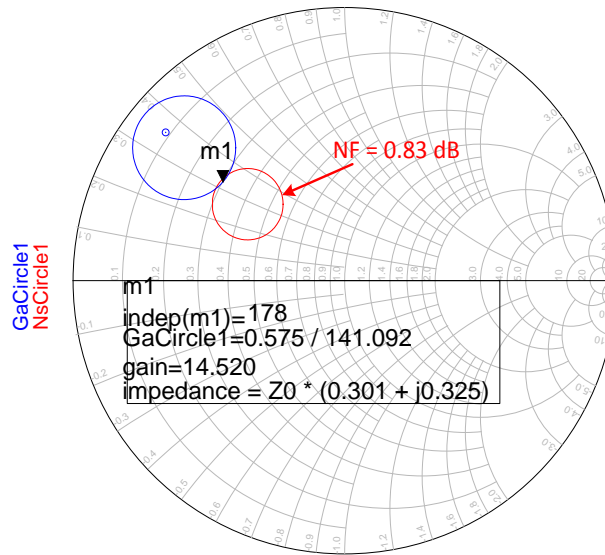

Figure 4
Step 2. Choose Γ_S as the intersection of the two circles. This ensures $G_A = G_{T_{\text{max}}} - 1\text{dB}$ while achieving the best possible NF. According to Figure 4,